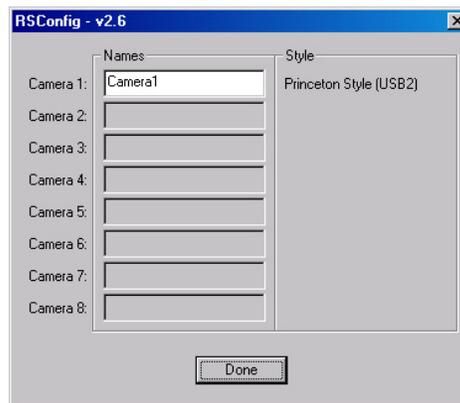

Figure 5. RSConfig dialog box
3. When the RSConfig dialog box (Figure 5) appears, you can change the camera name to one that is more specific or you can keep the default name "Camera1". When you have finished, click on the **Done** button.